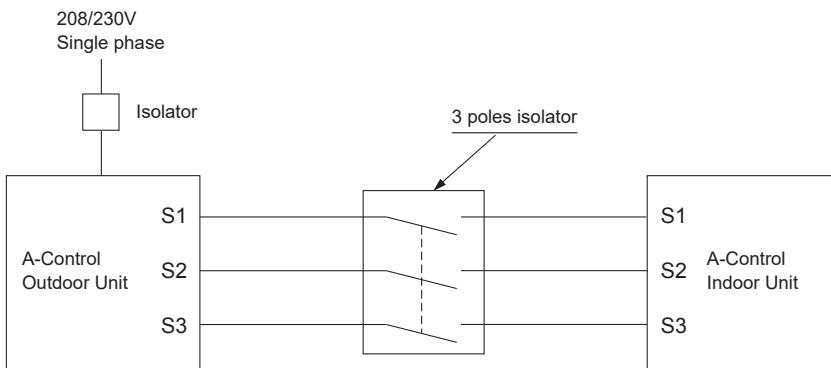

Fig. 1
Explain to customers to affix the included labels(Fig.1) both on the main breaker and the sub-panel.
- Explain to customers to affix the included labels(Fig.1) both on the main breaker and the sub-panel.